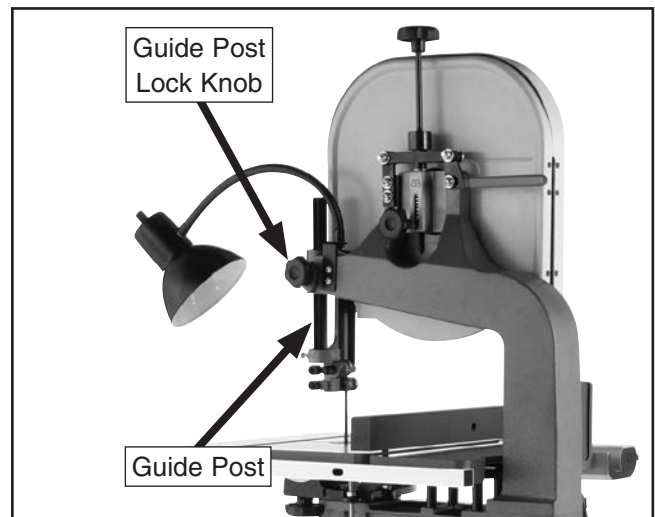

Figure 32. Guide post controls.
When cutting, the blade guides must always be positioned so they just clear (no more than $\frac{1}{4}$ ") the workpiece. The guide post, shown in **Figure 32**, allows the upper blade guide assembly to be quickly adjusted for height.
3. Loosen the guide post lock knob shown in **Figure 32**.